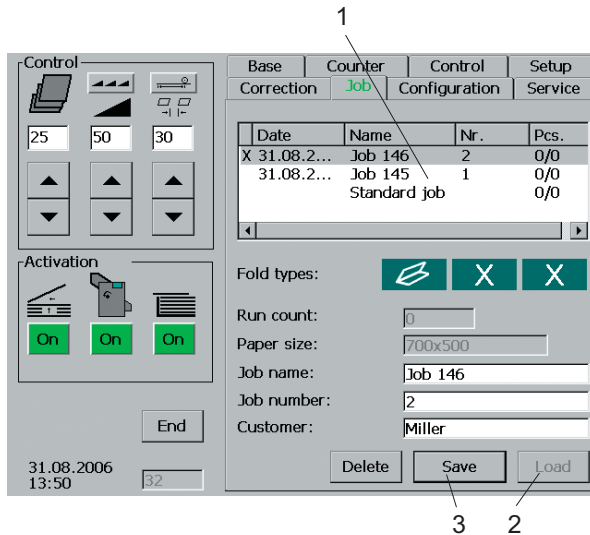

Fig. 73 Selecting a job
1. Touch the job to be changed in the display window (Fig. 73/1).
2. Set up the job by means of the *Load* key (Fig. 73/2).
4. Touch the *Save* key (Fig. 73/3).